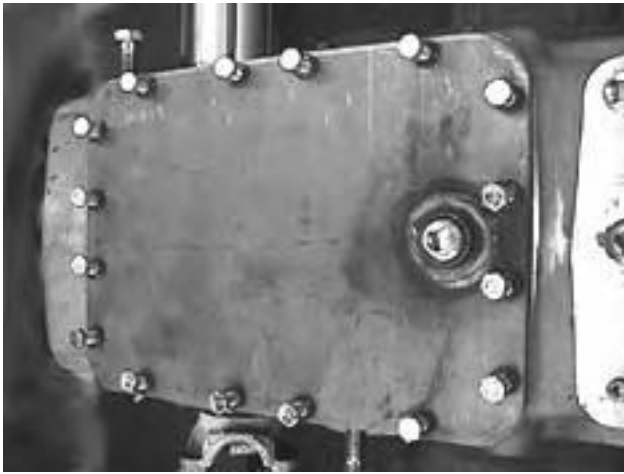

Fig. 1
3. Remove the side access cover from the case. See Fig. 1.